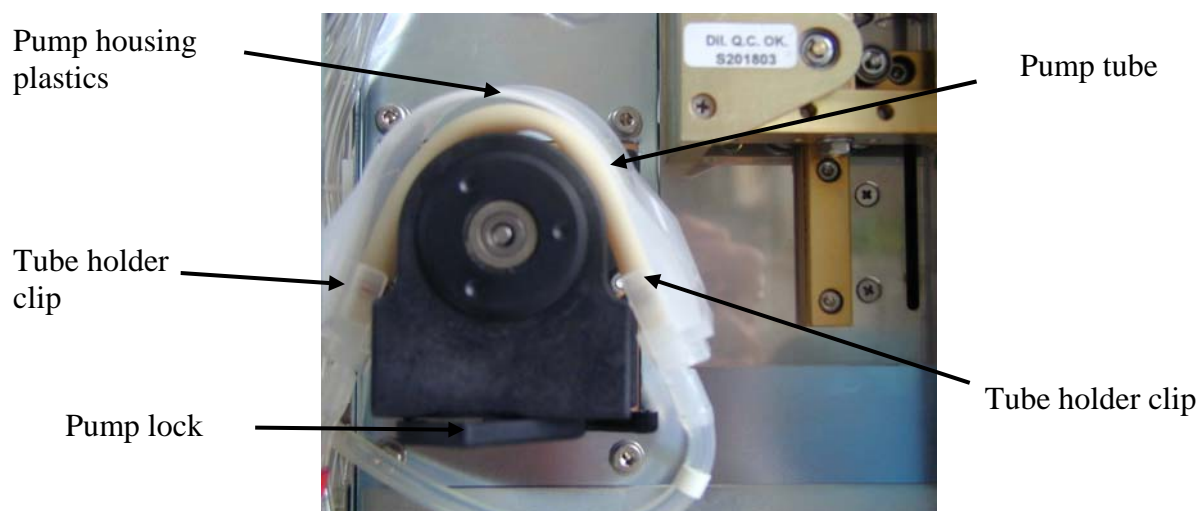

Figure 10. Pump with open lock
2. Open the pump lock by turning the plastic holders to release the pump housing plastics (see figure 10.) Snap out the pump tube (yellow in color) from the housing.